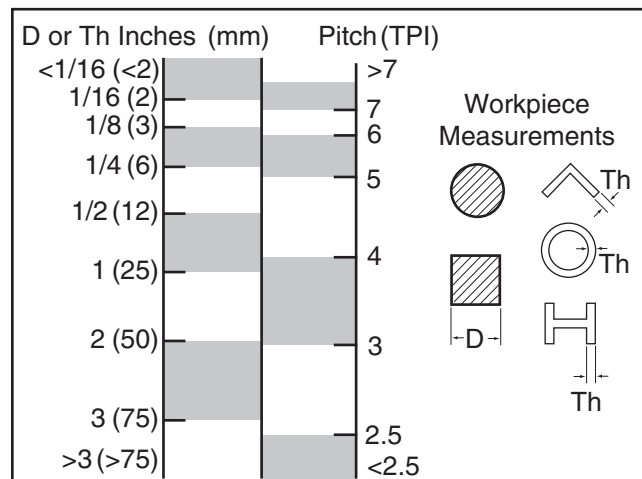

Figure 39. Blade selection chart.
- For solid workpieces, this measurement is the length of cut taken from where the tooth enters the workpiece, sweeps through, and exits the workpiece. See (D) on the chart in **Figure 39**.
2. Refer to the "D or Th" column of the blade selection chart in **Figure 39**, and read down to find the workpiece thickness you need to cut. Read across to find the appropriate Pitch (TPI) for the cut. For blade alternatives, see **Accessories** on **Page 29**.